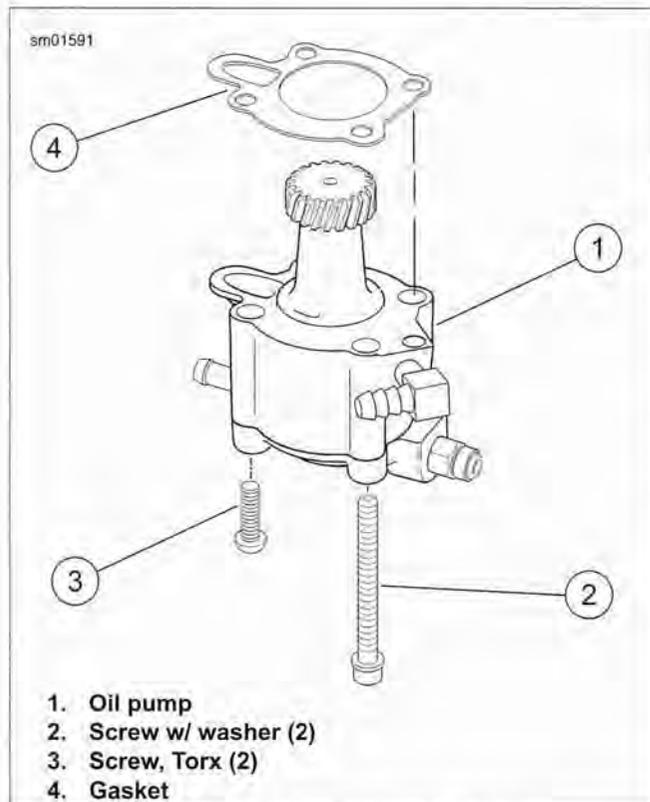

Figure 3-101. Oil Pump: XL Models
2. See Figure 3-101. Carefully remove two screws (2) that secure pump to crankcase. Pump will drop with screws removed. Discard mounting gasket.